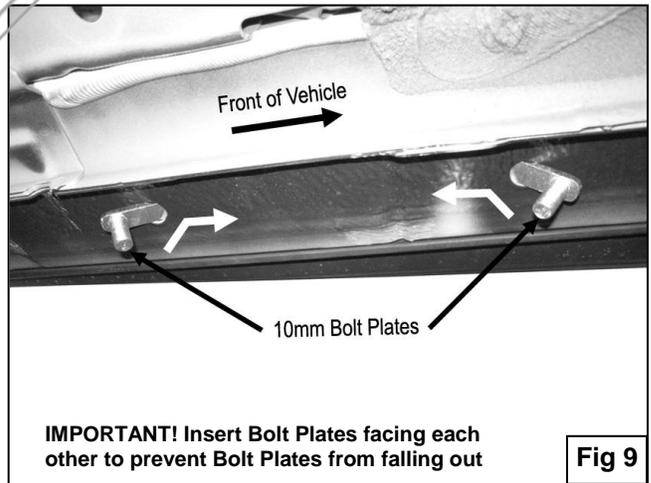

Fig 9
8. Repeat steps 3 & 4 to attach the outside of the rear Mounting Bracket (**Figures 9, 10, 11 and 14**). **NOTE:** The rear Mounting Brackets mounts in the hole second from the front of the Locking Bracket.